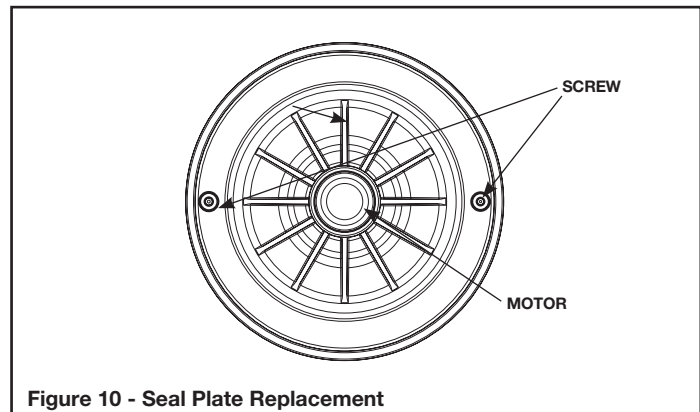

Figure 10 - Seal Plate Replacement
2. Carefully slip seal plate over shaft. Do not disturb seal position in seal plate. The seal plate must be orientated during assembly so the two screw holes are on a horizontal line across the motor shaft (Figure 10). This placement should be done to ensure proper draining and priming.